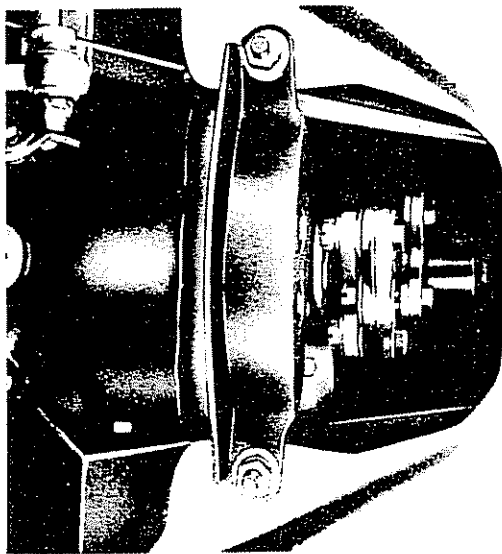

Fig. 24-1/1
5. Attach the rubber mounting (2) together with the screening plate (1) to the transmission. The hexagon nuts (8) are installed together with lock washers (7) (Fig. 24-1/2).
6. Lift the transmission by means of the car jack until the engine mounting rests against the chassis base panel. Insert the two hexagon screws (3) and install the nuts (6) by hand.